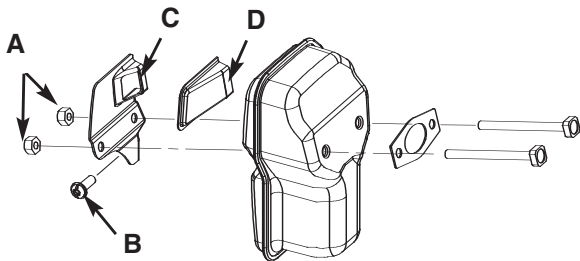

Fig. 38
2. Remove the 1 screw (B) that holds the spark arrester cover (C). (Fig. 38)
3. Discard the used spark arrester screen (D) and replace it with a new one.